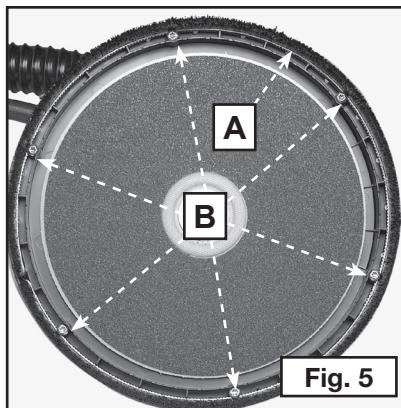

Fig. 5
A brush-type skirt (A) Fig. 5 surrounds the abrasive pad on the **Model 7800**. This skirt serves two purposes:
2. Use phillips screwdriver to remove the six retaining screws (B) Fig. 5.